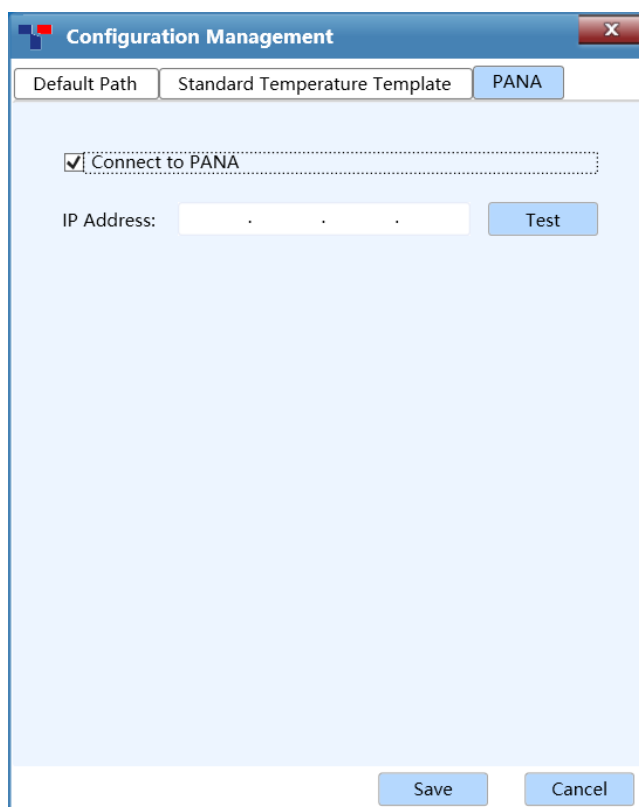

Figure D-3.5c Configuration Management interface - PANA tab
- User can check the PANA connection check box in the PANA label and fill in the IP address box below to ask for the IP address of the PANA full-automatic nucleic acid workstation to be connected. Finally, click test to check whether the PANA instrument can be connected, , as shown in figure D-3.5c.